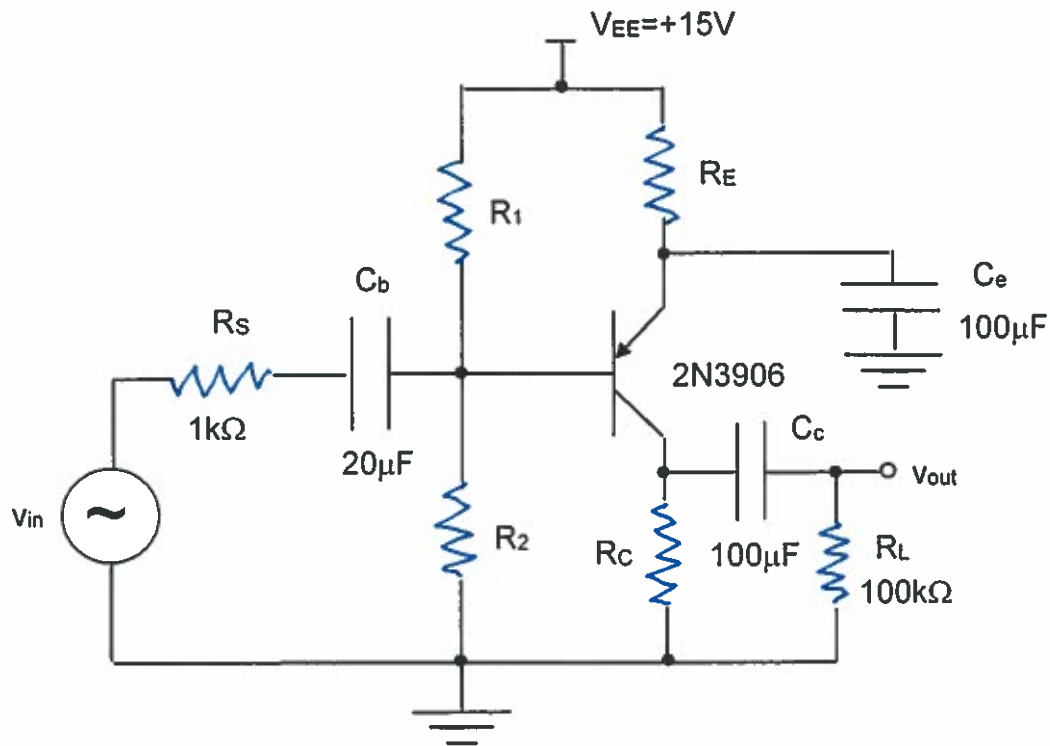

Figure 1.
Your task is to independently design, build and test a single-stage PNP Common Emitter Amplifier circuit (CE Amp) as shown in Figure 1. (Note the external  $R_s$  resistor; please don't forget this). Figure 2 shows the front-end 10-to-1 attenuator input circuit that you should use in this lab (similar to Lab1). Your job is to determine all four unknown resistor component values in this circuit such that the following specifications are met:
1. Design a CE Amplifier circuit (i.e., determine all four unknown resistor values; see Figure 1) which meets all the design specifications listed above using the Hand-design techniques learned in class.
1. For your circuit design, refer to Figure 1.